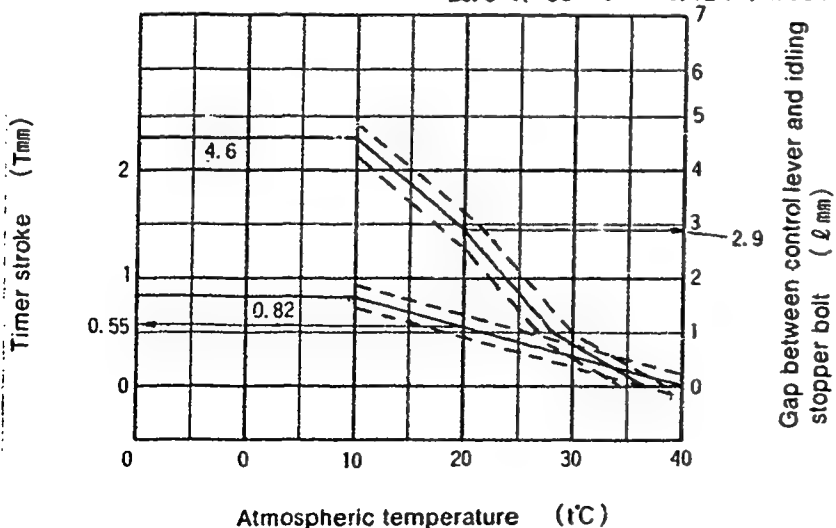

Fig. 2
1. Calculate the timer stroke from Fig. 2 according to the atmospheric temperature at the time of adjustment.
1. Calculate the block gauge dimension $\ell \pm 0.05\text{mm}$ from Fig. 2 according to the atmospheric temperature at the time of adjustment.
2. Insert the block gauge (thickness gauge) selected in Step (1) above between the bracket and the idling stopper bolt.
Formula for calculating Fig. 2 $10 \leq t \leq 20 \quad T = -0.027t + 1.09$